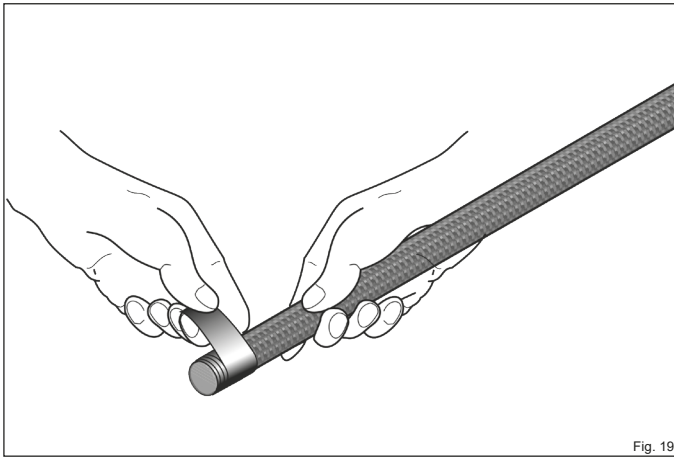
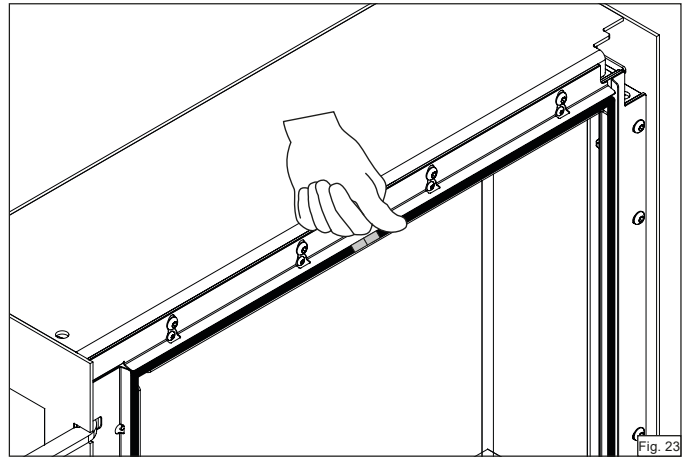

Fig. 19
Fig. 23
- ▶ **Wrap approx. 3 cm of one end of the new seal with copper tape (Fig. 19).**
- ▶ **Also wrap this end in copper tape (Fig. 19) and push the seal into the rail (Fig. 23)**